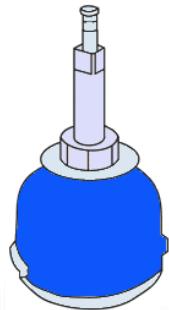

**Figure 12a - Pressure testing tee-set    Figure 12b - Tee-set ready for drilling**
*The air test should be applied from either the test point installed into the drilling housing, (Figure 12a), or by using the fitting housing with a pressure test assembly (see Figure 12b below).*
8. When tested as shown in Figure 12a - Pressure testing tee-set the pressure gauge used for this operation must be left on during the drilling operation and used to monitor the mains operating pressure.
9. Check that the valve is open and lower the drill spindle (3) onto the main.
10. Position the ratchet handle with the chamfer upward on top of the drilling spindle and swing the bridle (2) into position.